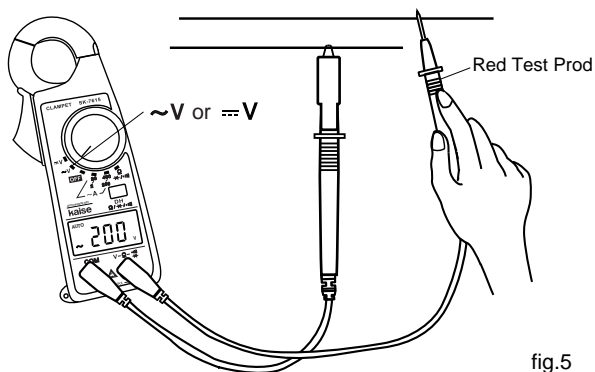

fig.5
6. Read the voltage on LCD. Refer to the figure 5.